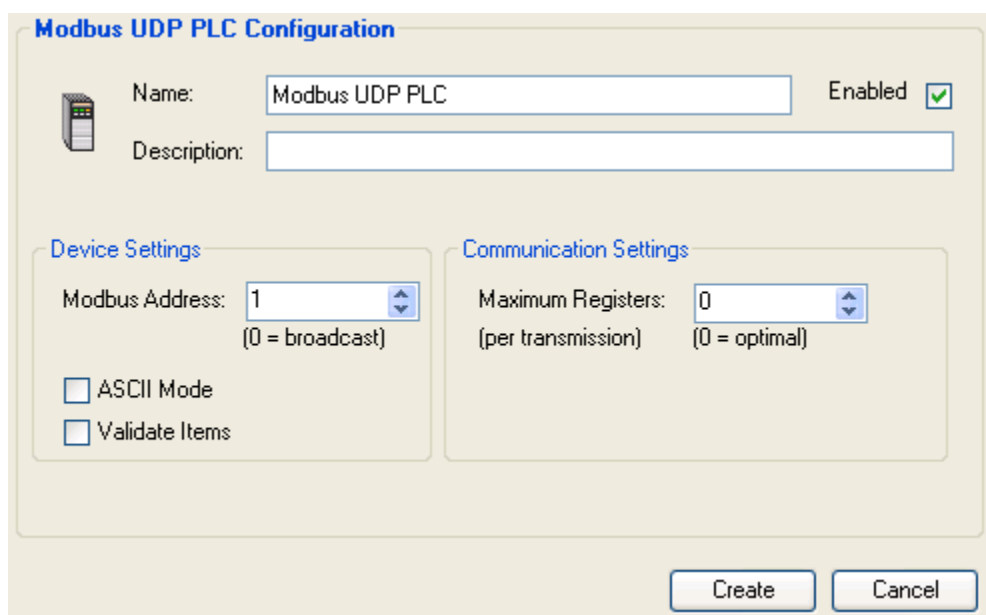

Figure 18 - Modbus UDP PLC Configuration Page
Figure 18 displays the **Modbus UDP PLC Configuration** page.
- The **Modbus UDP PLC Configuration** page (Figure 18) is displayed in the settings pane on the right side of the screen.